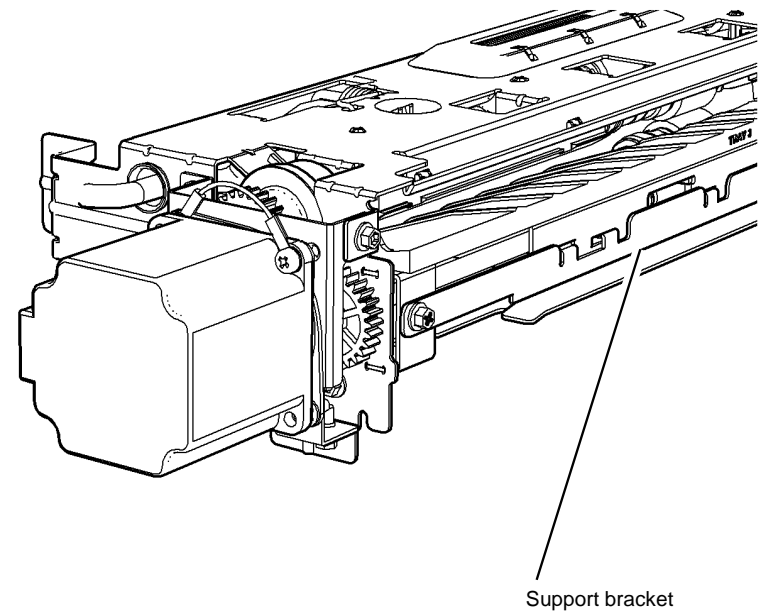

Figure 2 Support bracket
1. Ensure the support bracket is present on the tray 3 paper feed assembly, Figure 2.